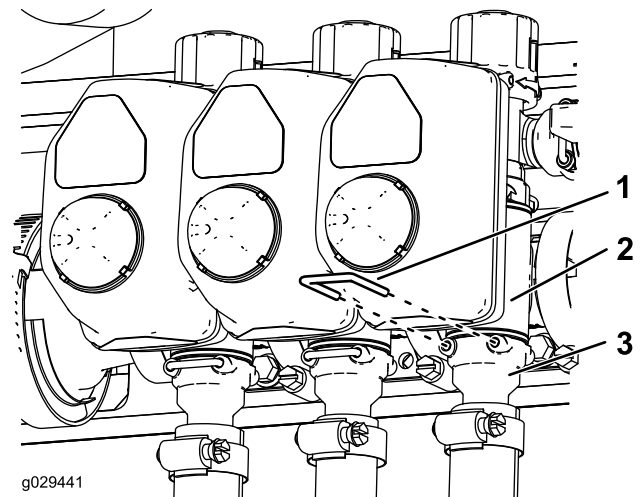

Figure 1
4. On the right side of the machine, behind the tank, remove the forks from the 3 hose fittings and disconnect the hose fittings from the section valves (Figure 1).